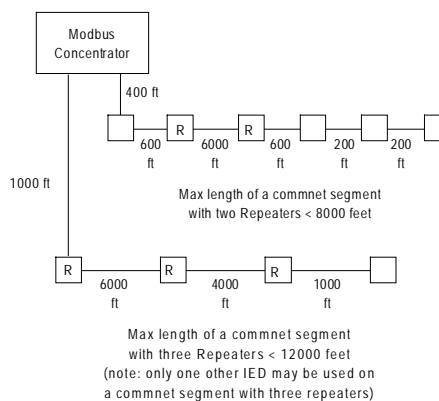

Figure 18. Network illustrating commnet Rule 4.
4. Long-distance cable runs may be built by placing two Repeaters adjacent to one another in the segment. A pair of adjacent Repeaters has a range of up to 6000 feet of cable. Figure 18 illustrates this rule.
- You may want to block commnet address assignments by lineup and/or Modbus Concentrator segment. For example, start with 40 for the first lineup attached to one Modbus Concentrator, 50 for the second lineup attached, and so on. Addresses must be in the range 33 to 247. The example presented in Figure 18 demonstrates this.